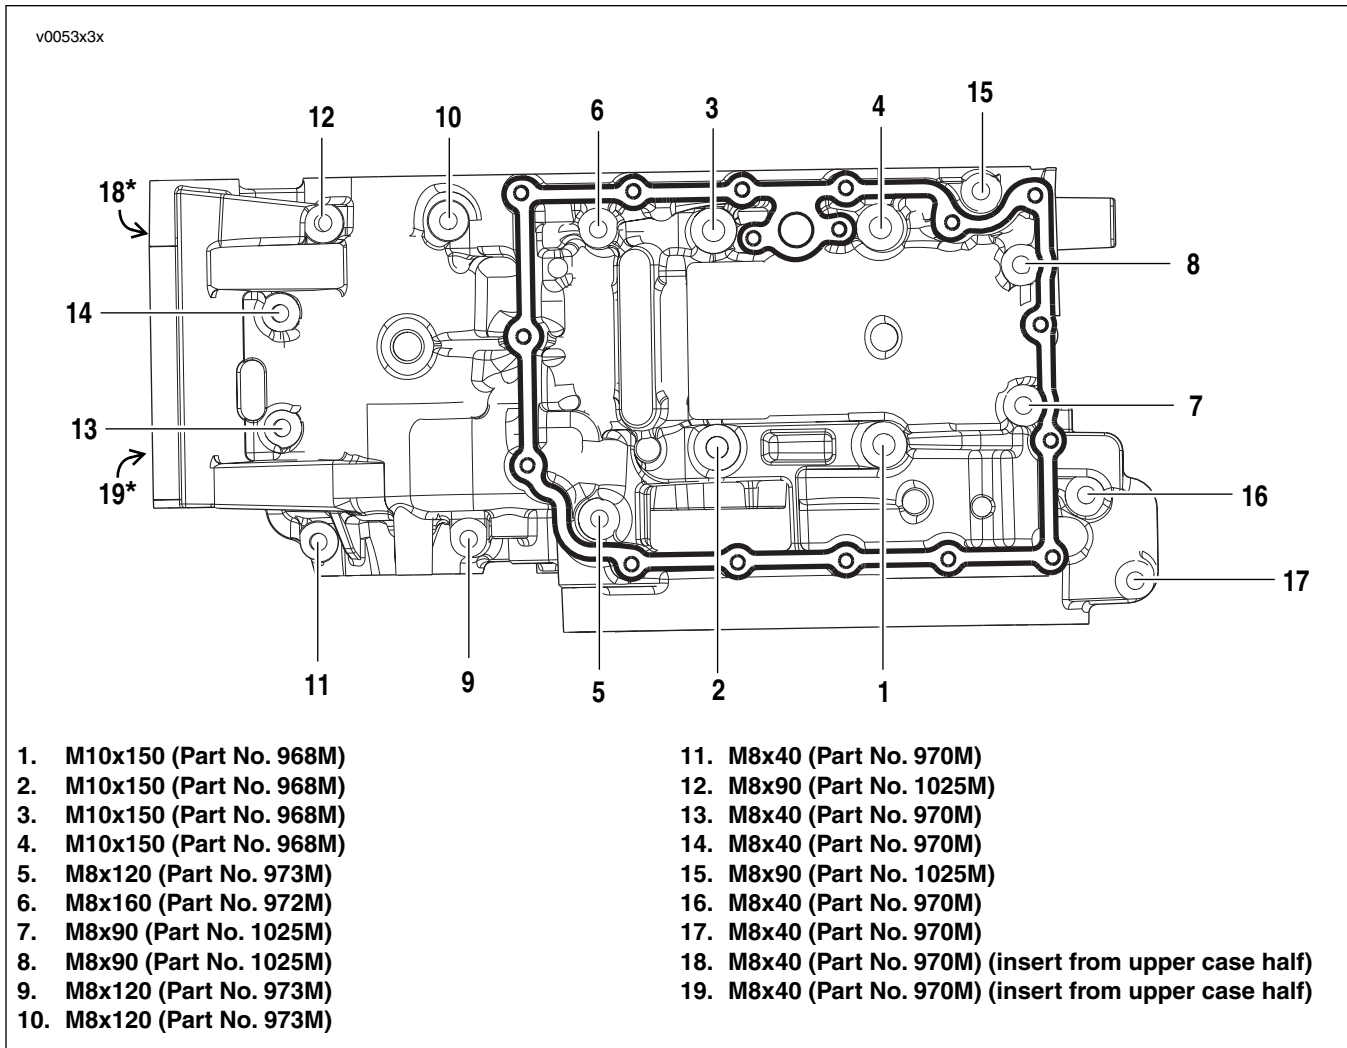

Figure 3-149. Engine Case Torque Sequence
25. See Figure 3-149. Tighten in sequence all 19 case fasteners to 25 Nm (18.4 ft-lbs).
27. See Figure 3-149. Torque in sequence the 4 M10 x 150 main bearing bolts (1, 2, 3, 4) main bearing bolts in this sequence.
- b. See Figure 3-149. Torque in sequence each main bearing bolt (1, 2, 3, 4) to 15 Nm (11 ft-lbs).